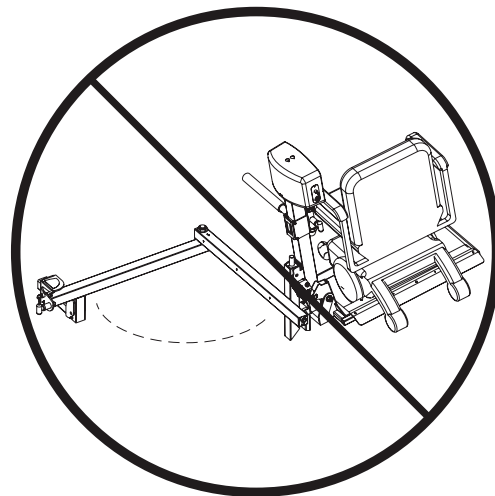

Figure 3-7
*NEVER open the Swing-Away with the mobility device on the lift. Opening the Swing-Away with the mobility device on the lift will damage the Swing-Away and the lift and will potentially damage the vehicle and the mobility device. Any of these actions will VOID the warranty. **See Figure 3-7.***